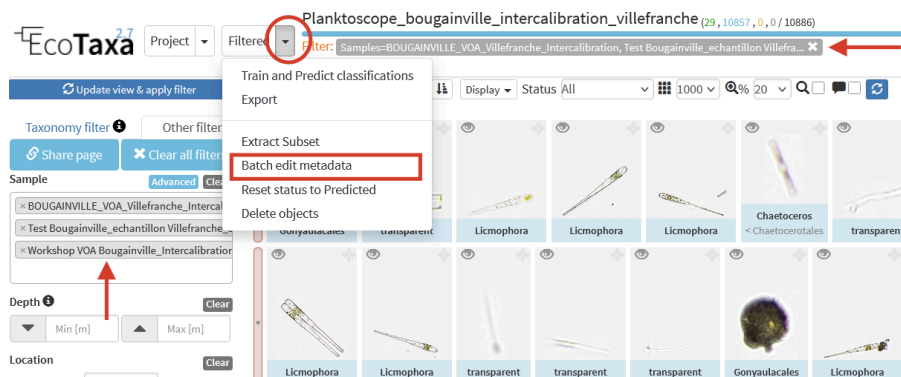

Figure 6: Batch edit metadata for selected samples
3. Click on **Filtered > Batch edit metadata** (Fig. 6)